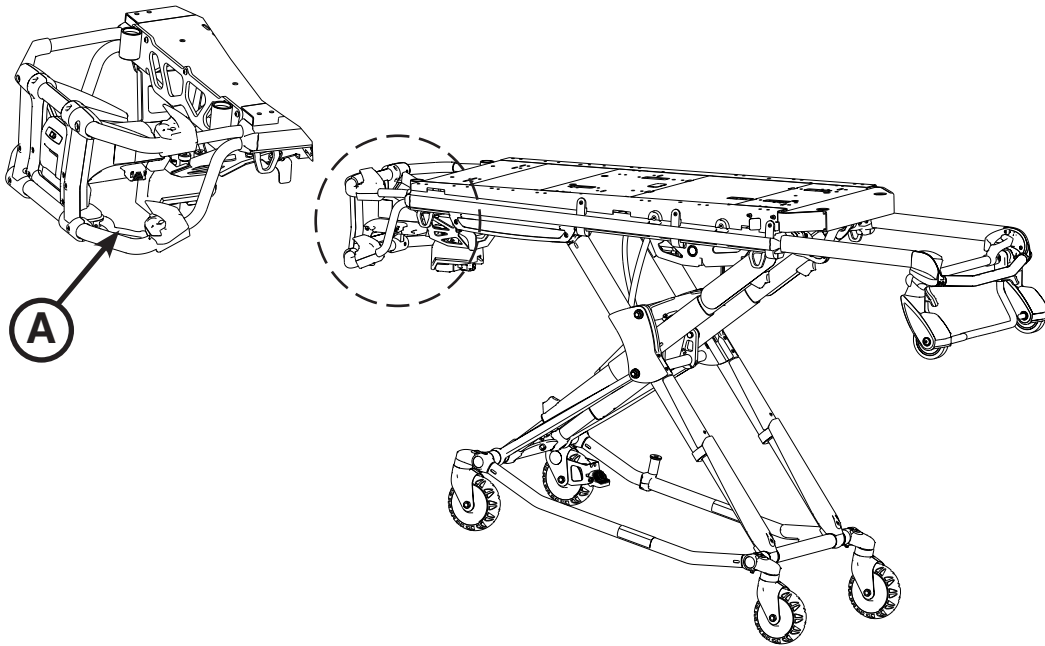

Figure 24: Manual Back-Up Release Handle
The **red** manual back-up release handle (A) is located along the patient left side of the lower lift bar at the foot end of the cot as shown in Figure 24.